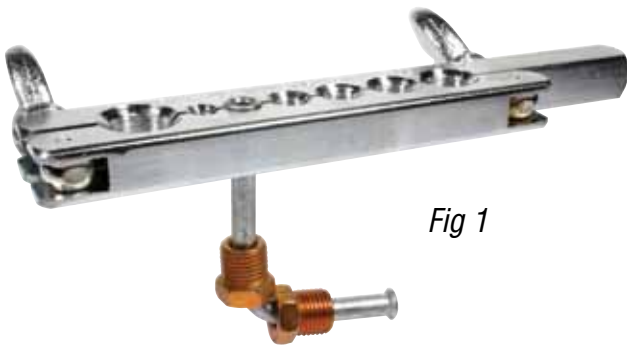

Fig 1
3. The top of the tube should be $1/32$ " above the top of the flaring block. See Fig 1.